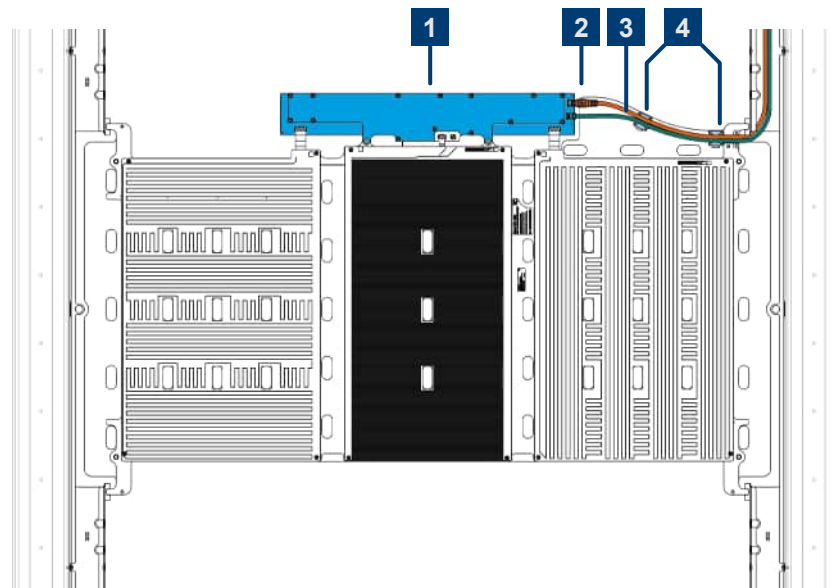

Figure 4-7: Connecting the cables to the shoe scanner unit
- Secure the cables to the shoe scanner using cable ties (4). Refer to Figure 4-7. The cables must go in a straight line from the electronics to the opening in the cable duct.